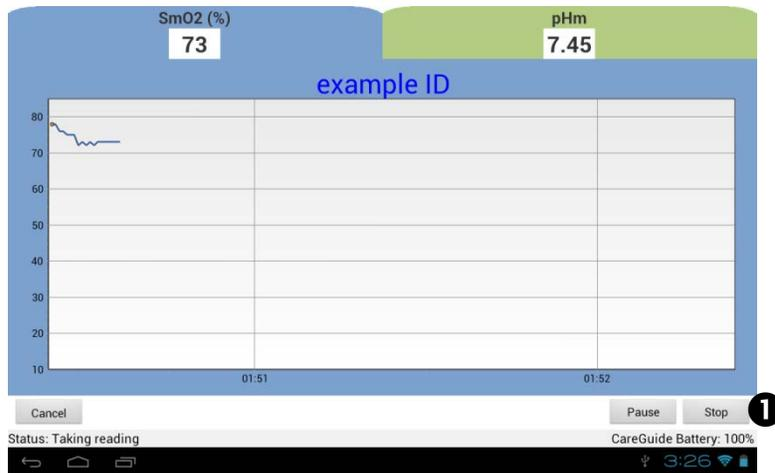
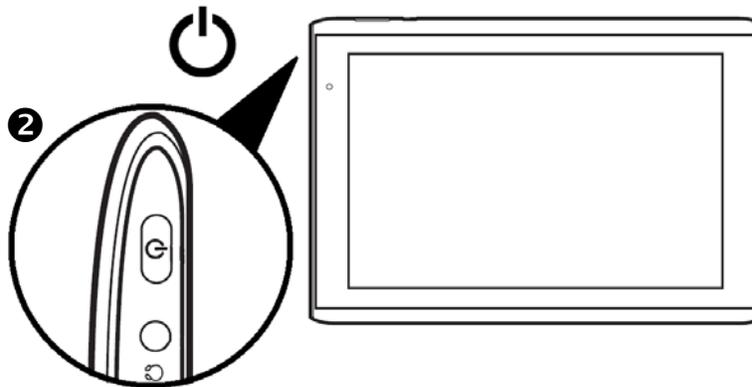
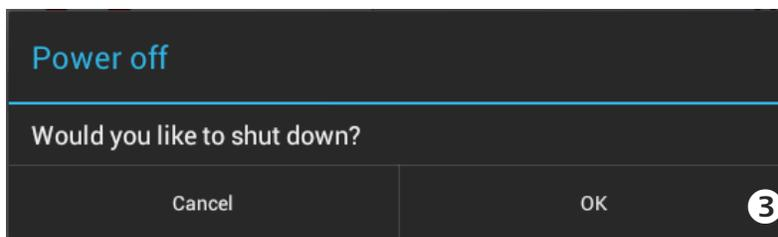

Figure 27. Example Monitoring Screen
Figure 28. Display Power Button
Figure 29. Power Off
- 1 To end monitoring for the current patient, click the 'Stop' button on the Monitoring Screen (Figure 27 ❶).
- 3 If finished monitoring, press and hold the power button on the Display (Figure 29 ❷).
- 4 Click 'OK' to confirm shut down (Figure 29 ❸).
The Sensor has an LED (Figure 27 ❶) that indicates charge status by the state of the LED (Figure 28). You can also check the battery charge level using System Tools (see 4.2.3 Battery Charge Level).
To charge the Sensor, connect the DC-in jack to the Sensor (Figure 27 ❷) and plug the Sensor charger (Figure 29 ❸) into any hospital-grade AC 110/220V outlet.